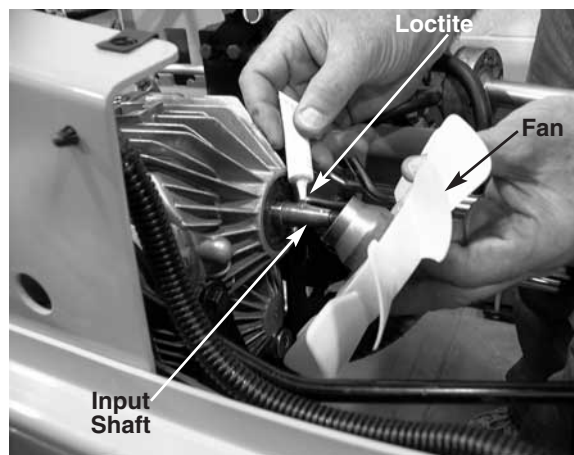

FIGURE 7.
1. Clean the hydrostatic input shaft of any debris. See figure 7.
2. Apply a light coat of loctite 803 to the taper of the input shaft. See figure 7.